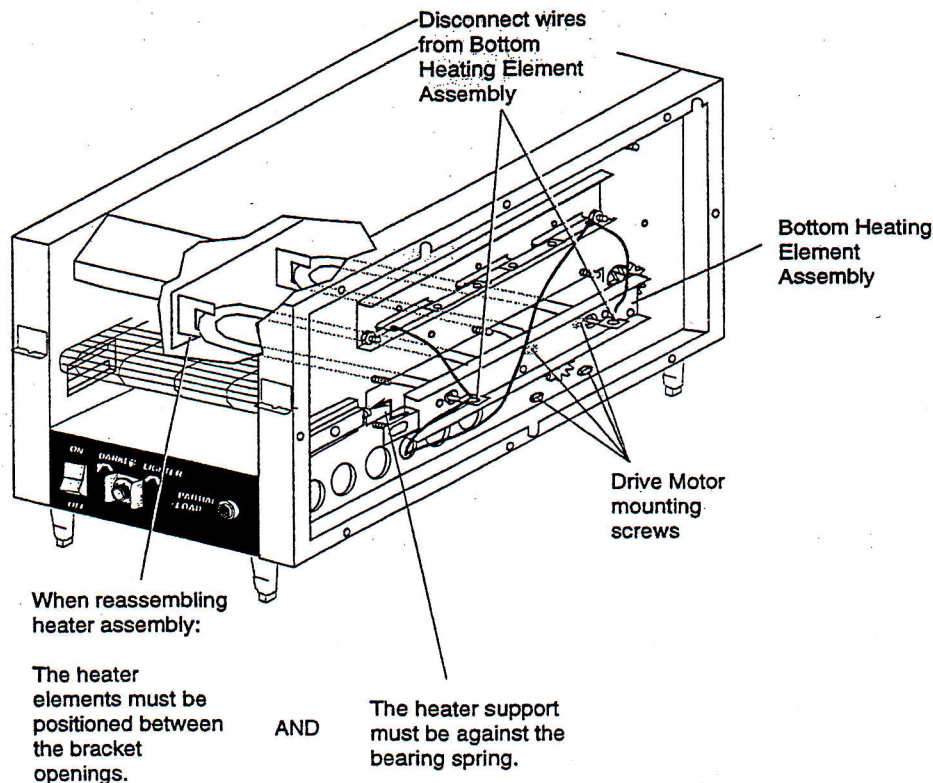

Figure 8
3. Remove the 6 nuts from the right side bottom heater support panel and the 2 screws to remove the wires from the heater terminals. Refer to Figure 8.
6. Reassemble parts in the reverse order they were removed. Be sure to insert heater element into the 2 bracket openings on the left side of toaster when sliding the heating element into the toaster. Refer to Figure 8. Also position heater support against spring at end of shaft bearing when reassembling heater assembly into toaster.